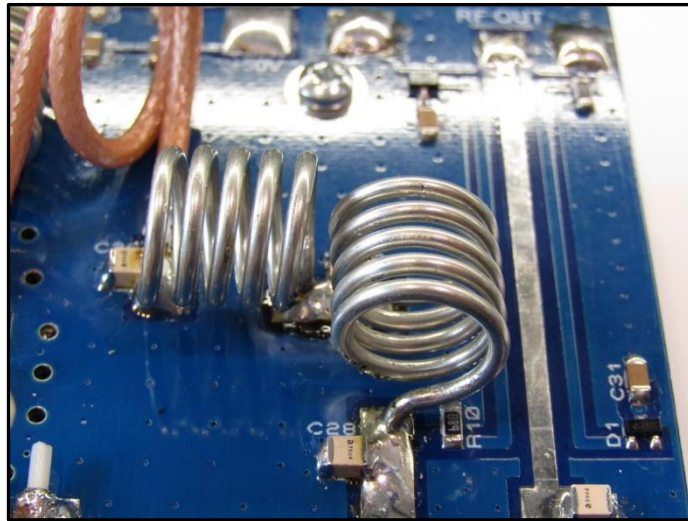

Figure 15: L9 position.
17. Cut one 215mm length of 16SWG tinned copper wire and form a 5 turn close-wound coil around a 9.5mm drill bit. The length of this coil should be 12mm from centre-to-centre of the wire. Bend and trim the excess wire to form 3mm leads and solder in position at 90 degrees to L8, between the pads at C27 & C28. This coil forms L9, the second coil in the low pass filter. See figure 15.